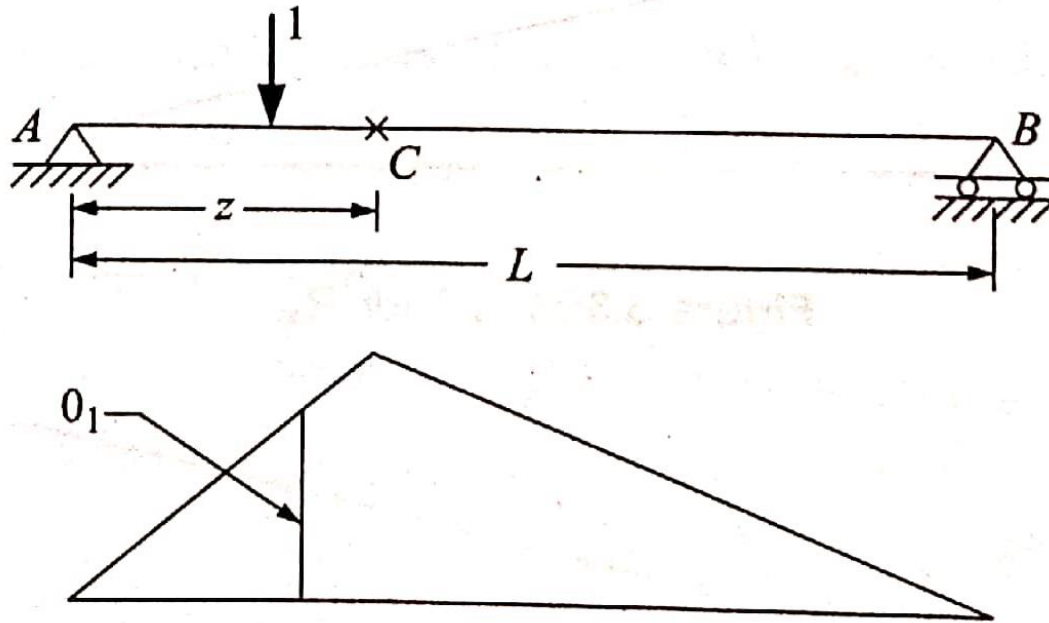

Figure 1: ILD for moment at 'C'
- For example If Figure 1 represents ILD for moment at section 'C' in the beam AB, then the ordinate 'O' represents the value of bending moment at 'C' when a unit load is acting at section 1-1.